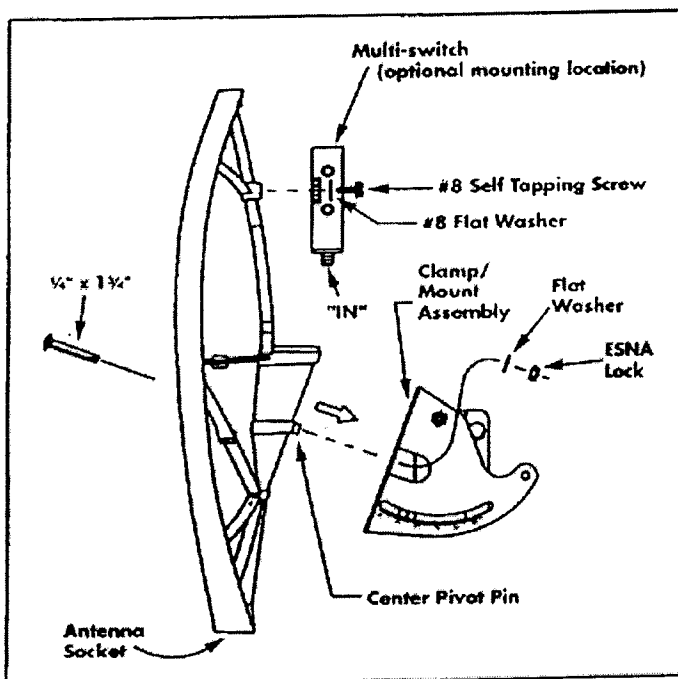

FIGURE 6
8. Attach the antenna to the tilt slots on the clamp/mount assembly with (2) 1-3/4" long carriage bolts, flat washers and ESNA locknuts making sure the center pin on the antenna is in the mating hole in mount tab before tightening. See Figure 6.
9. See Multi-switch mounting location options in Step 14. If the back of antenna option is chosen, attach multi-switch to hollow bosses on the back of the antenna directly above the mount using (2) #8 self-tapping screws and (2) #8 flat washers. See Figure 6.
- Option #1: Mount a weatherproof Multi-switch to the back of the antenna as shown in Figure 6. This location is simplest for installations using only one receiver since only one cable enters the building. If this option is selected, connect the LNB's to the Multi-switch per the following instructions while on the ground with 32" long cables.